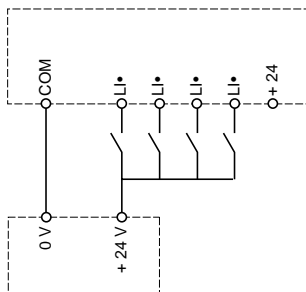

Figure 8: External Supply Wiring Diagram
- (1) Line reactor if required.
- (2) Fault relay contacts for remote signalling of the drive controller state. Contact state is shown with the drive controller deenergized or faulted.
- (3) Internal +24 V. When using +24 V external supply, connect the 0 V to the COM terminal. Do not use the +24 V on the control board, but connect logic inputs to external +24 V. See Figure 8 on page 29.
- (4) Auxiliary on output contactor. If the drive controller is reprogrammed, the R2 function must be assigned to "Output Contactor Command".
- (5) Use dynamic braking module VW3A58701 with drive controllers ATV58EU09M2ZU and U18M2ZU if dynamic braking is required. See Appendix A for the available braking resistor kits.
- (6) Manual speed potentiometer and three-position switch are factory-installed in the terminal block cover. There is enough space in the terminal block cover to install two more 16-mm operators.
- (7) When user-installed wiring is added from terminals +24 to LI2 and when the drive controller programming is at factory settings, placing the selector switch in this position will command the drive controller to run in reverse. The function of LI2 can be altered with the programming options. See Appendix A for a list of programming options.
- (5) See Appendix A for the available braking resistor kits.
- (7) When user-installed wiring is added from terminals +24 to L12 and when the drive controller programming is at factory settings, placing the selector switch in this position will command the drive controller to run in reverse. The function of L12 can be altered with the programming options. See Appendix A for a list of programming options.
An external 24 V power supply can be used for the logic inputs. In this case, the +24 terminal on the drive controller is not used. Figure 8 shows the wiring diagram when an external supply is used.